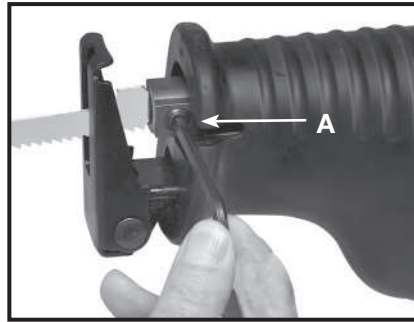
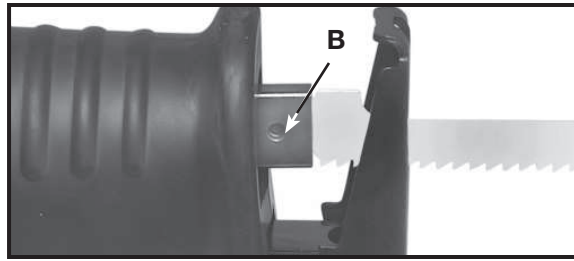

Fig. 2
Fig. 3
2. Insert the blade into the blade clamp until it bottoms, (A) Fig. 2. When the blade is properly positioned: the hole in the blade shank will align with the hole (B) Fig. 3, in the backside of blade clamp.